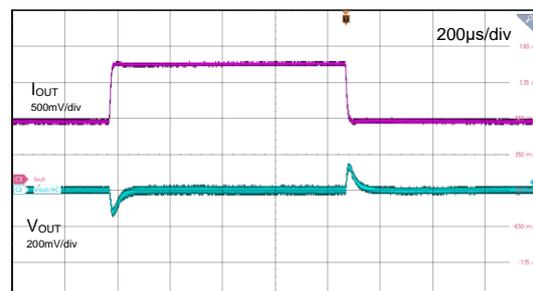

Fig.11 Load Transient, $V_{IN} = 9V$, $I_{OUT} = 0.8 A$ to $1.6 A$
7. Set electronic load to dynamic mode and set load step from 0.8A to 1.6A with a slew rate of $1.6A/\mu s$, use oscilloscope to observe output voltage and load current (See Fig.11).